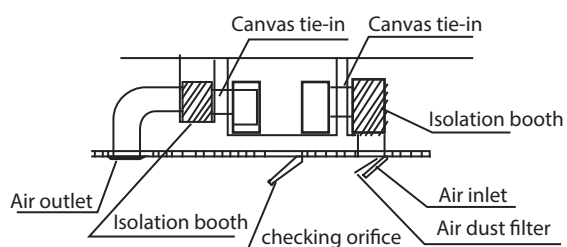

**Fig. 4.9**
9. Mount the indoor unit onto the hanging screw bolts with a block. Position the indoor unit flat using a level indicator to prevent leaks. (See Fig. 4.9).